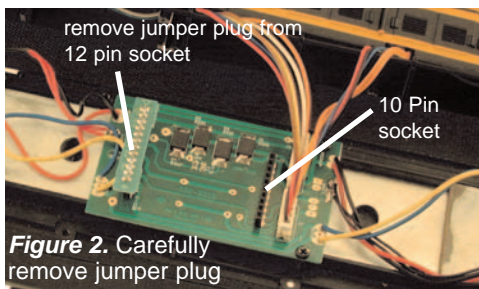

Figure 2. Carefully remove jumper plug
2. Remove the jumper plug from the locomotive's 12 pin DCC-ready socket. (*Figure 2*) The jumper plug allows the locomotive to operate on a standard DC track or in analog mode on a DCC track.